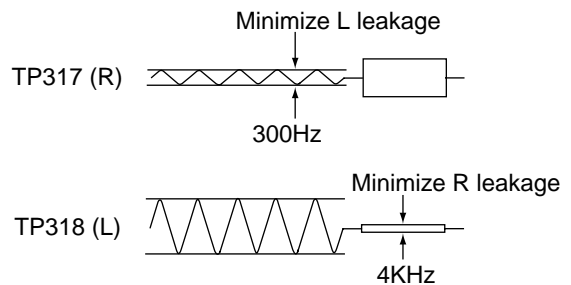

Figure 8. Separation Adjustments
13. Adjust the + or – key for minimum low frequencies at TP317.(See Figure 8.)
16. Adjust the + or – key for minimum high frequencies at TP318.(See Figure 8.)